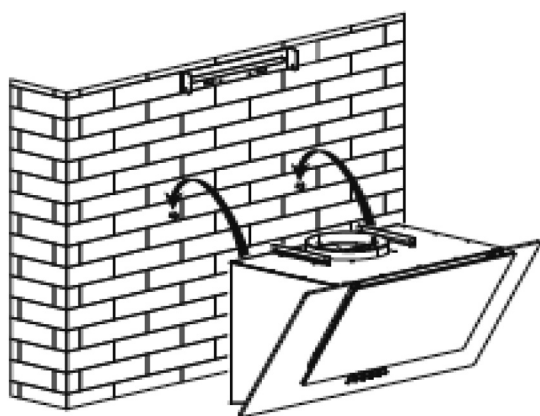

fig.7
- Install the outside chimney bracket onto the outside chimney with 2 ST4*8mm screws. Make sure the inside chimney can be slid easily. See fig.7.